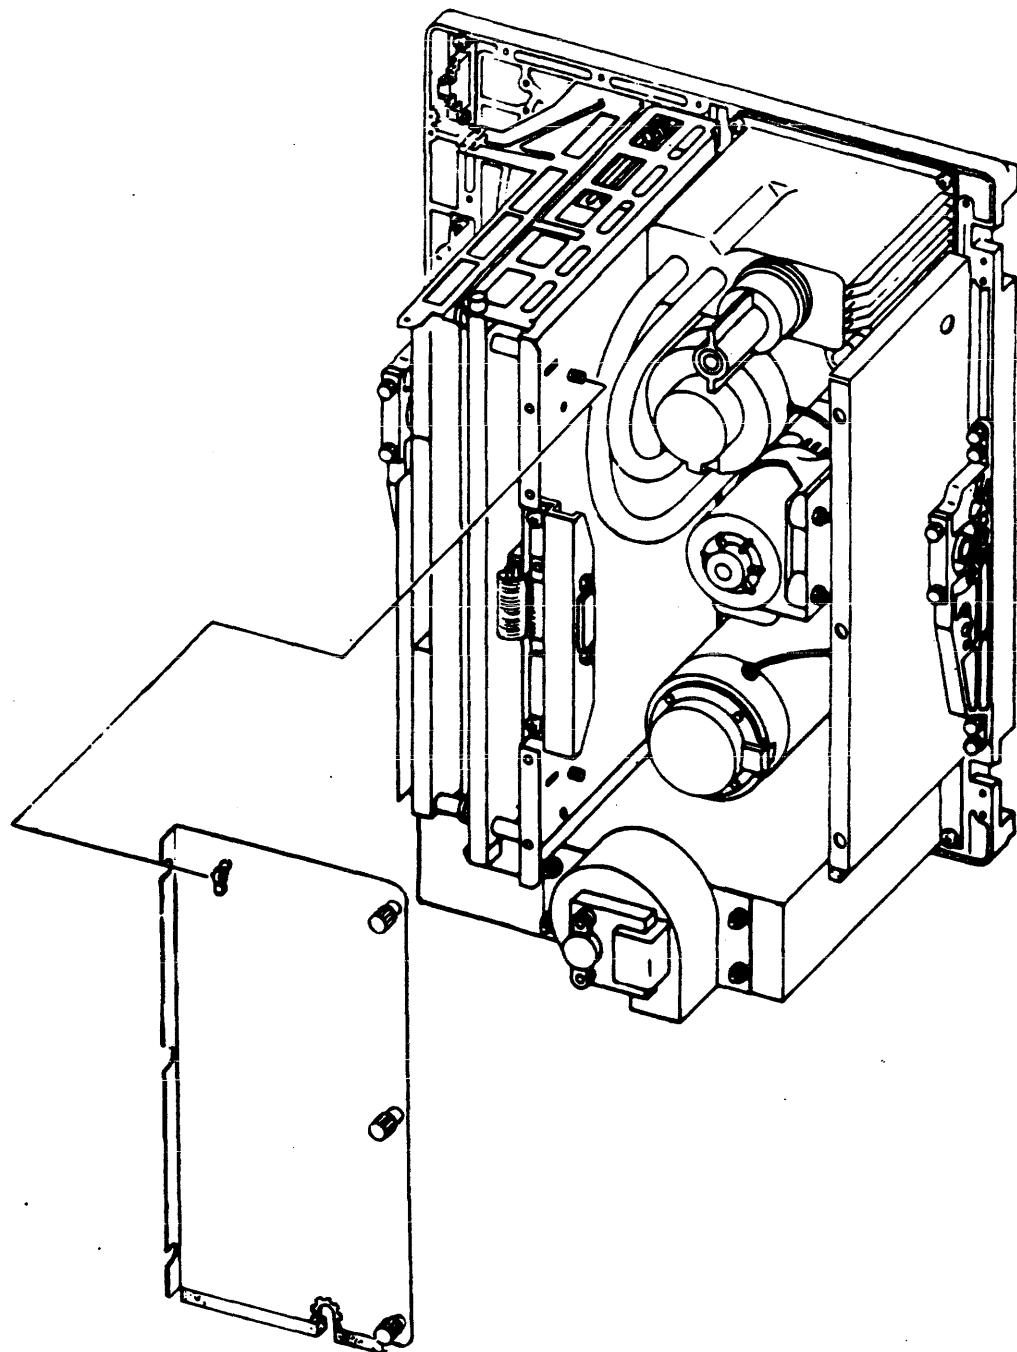

Figure 5-3. DRIVE COVER
- 2. Loosen the nuts and the screws securing the cover and remove the drive cover assembly (Figure 5-3). (The drive cover assembly consists of the drive cover with attached foam strips and grommet.)**